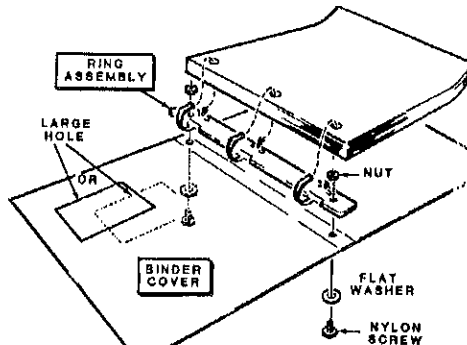

Figure 1
- () Refer to Figure 1 and position the binder cover with the large hole as shown.